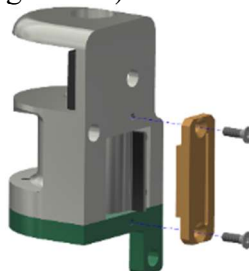

Figure 7-8. Remove the Spring Retainer (474-3526)
- 7.2.5 Remove the Spring Retainer (474-3526) from the bottom of the Spine-Shoulder Coupler, Top (474-3501-1,2-A) by removing two M3 X 0.5 X 10 LG. FHCS (Figure 7-8).